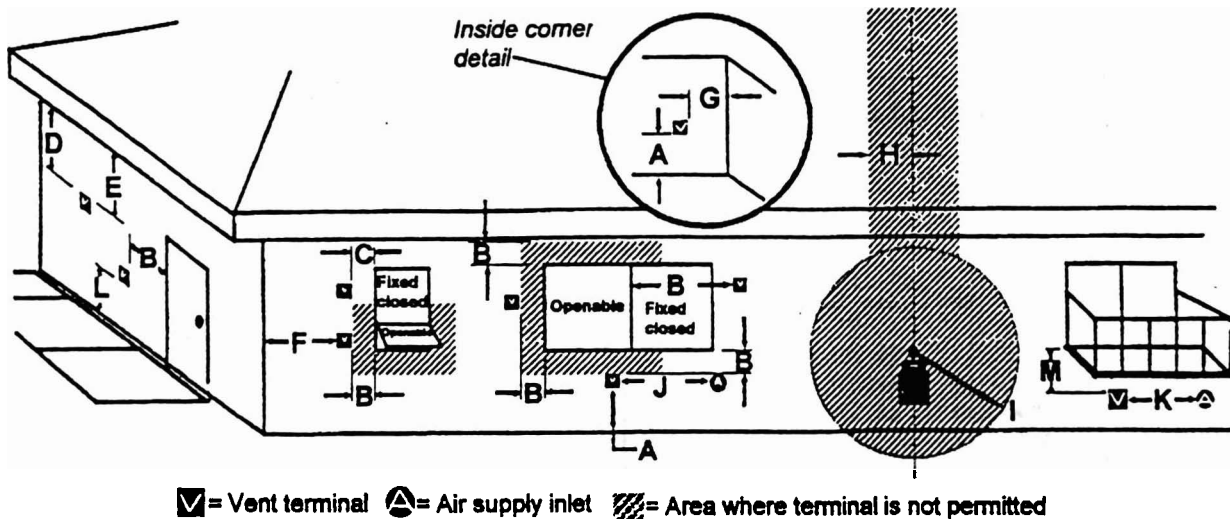

Fig.3 Vent terminal locations
- 4.7 This direct vent appliance is designed to operate when an undisturbed air flow hits the outside vent terminal from any direction. The minimum clearances from this terminal which must be maintained are shown in figure 3. Any reduction in these clearances could result in a disruption of the air flow or a safety hazard. Local codes or regulations may require greater clearances.